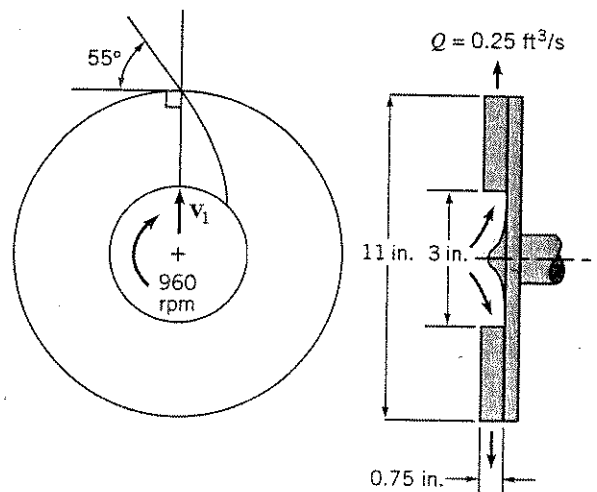

FIGURE P12.22
12.22 A centrifugal radial water pump has the dimensions shown in Fig. P12.22. The volume rate of flow is $0.25 \text{ ft}^3/\text{s}$, and the absolute inlet velocity is directed radially outward. The angular velocity of the impeller is 960 rpm . The exit velocity as seen from a coordinate system attached to the vane at its trailing edge can be assumed to be tangent to the vane at its trailing edge. Calculate the power required to drive the pump.